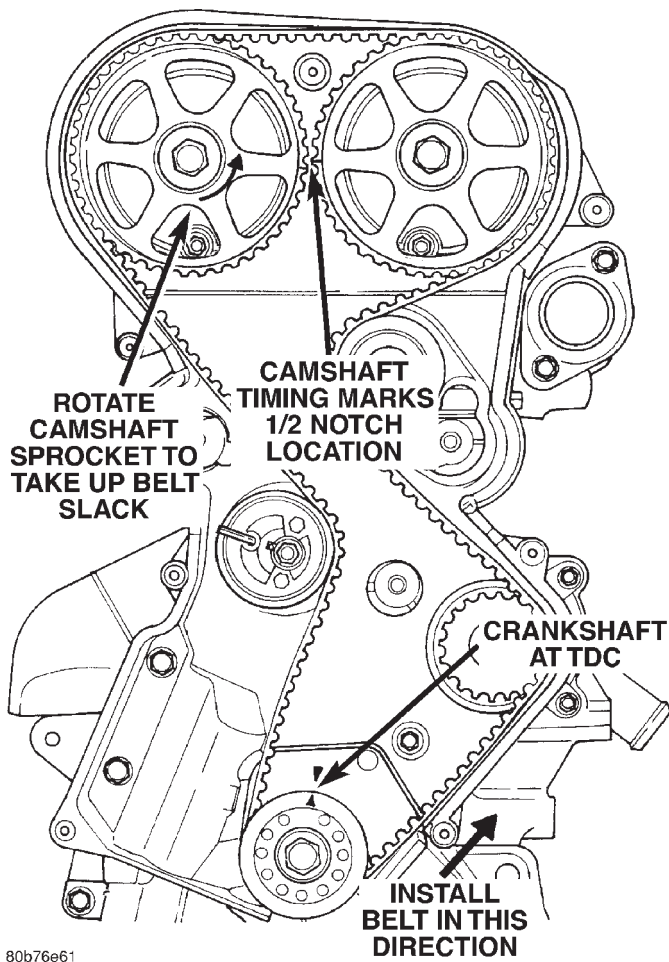

Fig. 62 Timing Belt—Installation
(3) Install timing belt. Starting at the crankshaft, go around the water pump sprocket, idler pulley, camshaft sprockets and then around the tensioner (Fig. 62).
(4) Move the exhaust camshaft sprocket counter-clockwise (Fig. 62) to align marks and take up belt slack.